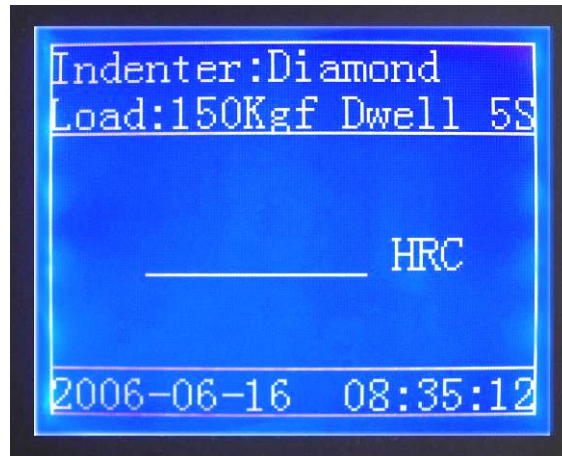

Figure 5.1.1
Switch on the machine and then the tester will self check. The relative information such as type, series number, software version will be displayed on screen. Tester will come to main menu after self-checking; current test parameters will be displayed on screen, and the status at the last shutting off can be automatically stored. Figure 5.1.1 is a typical status of Rockwell testing parameter; showing the current scale, indenter type should be selected according to the current scale, test force, load dwell duration, as well as current time.
Press “**Setup**” key to return to figure 5.1.1; or press “” or “” key to reset the other parameters.
5.2.3.5 Press “**Setup**” key to return to figure 5.1.1; or press “↵” or “⏮” key to reset the other parameters.
Press “**Setup**” key to return to figure 5.1.1; or press “↵” or “⏮” key to reset the other parameters.
Rotate the hand wheel in anti-clockwise to lower the anvil, and the test force will be unloaded completely; the screen returns to figure 5.1.1, and all test parameters are stored for the next testing.